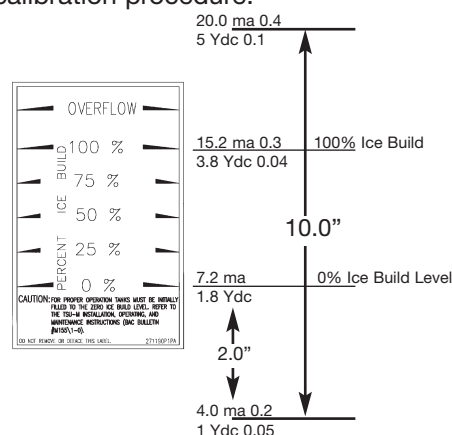

Figure 8. Calibration Markings
- a. Repeat the Set-Up procedure described on page 3, using a multi-meter to read the actual output signals. If the readings do not agree with the values in *Figure 8*, recalibrate the ice inventory sensor.
- b. If the output of the ice inventory sensor agrees with the values in *Figure 8*, the Energy Management System or read-out device needs to be adjusted.